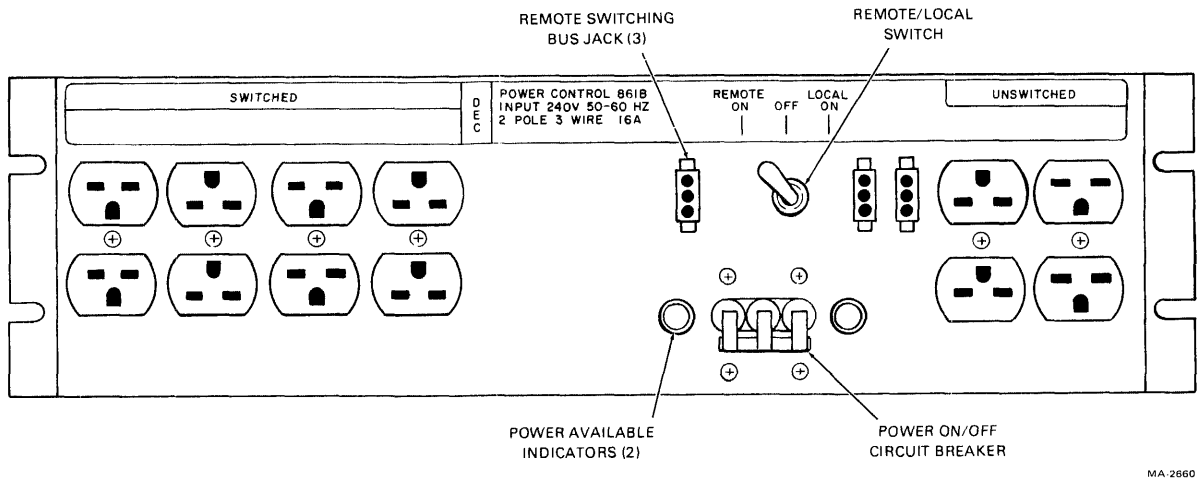

Figure 2-7 861B Power Control Panel
2. Check that the power on/off circuit breaker on the 861 is on and the remote/local switch is set to REMOTE ON (Figure 2-7).